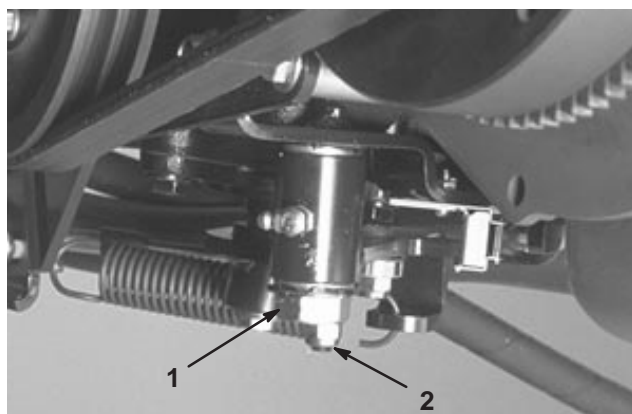

Figure 55
3. Loosen the locknut on the traction adjustment cam (Fig. 55).